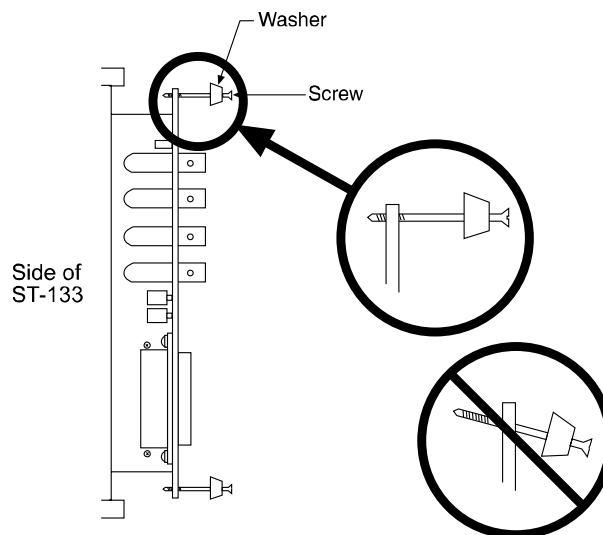

Figure 31. Module Installation
3. Rotate the two locking screws counterclockwise until the threads on the screws engage those of the module panel. *See Figure 31.* By doing this, the screws will be perfectly perpendicular to the module panel and will align perfectly when the module is inserted.